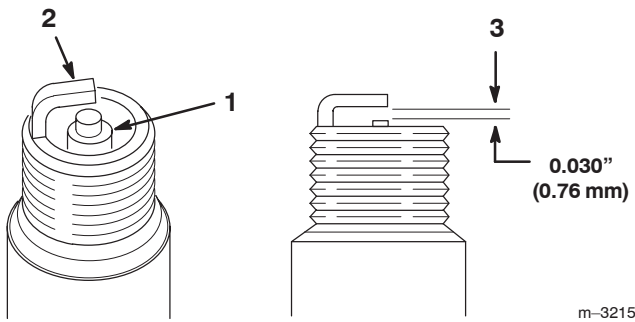

Figure 31
- Look at the center of the spark plugs (Fig. 31).
2. Check the gap between the center and side electrodes (Fig. 31) and bend the side electrode, if the gap is not correct.